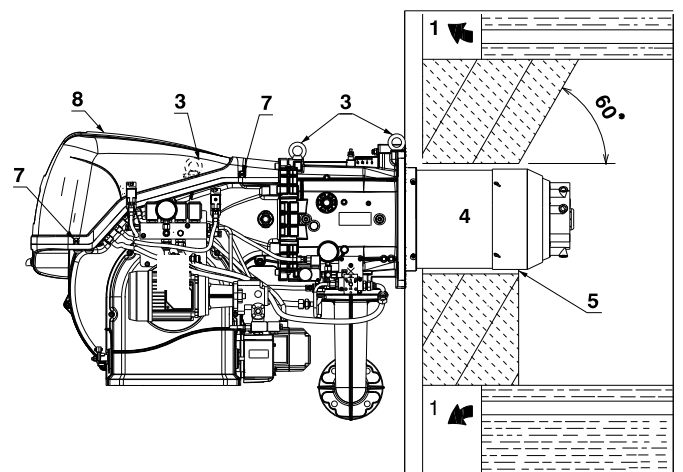

Fig. 16
For boilers with front flue passes 1)(Fig. 16) or flame inversion chamber, a protection in refractory material 5) must be inserted between the boiler fettling 2) and the blast tube 4).
Prepare a suitable lifting system using the rings 3)(Fig. 16), after removing the fixing screws 7) of the casing 8).
- Fit the heat insulation supplied onto the blast tube 4)(Fig. 16).